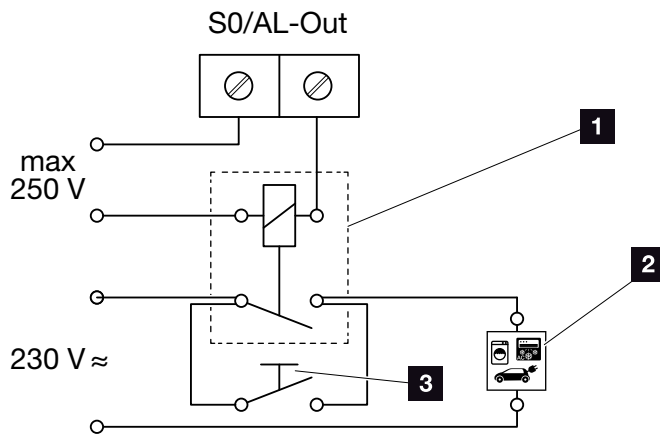

Fig. 61: Electrical connection for self-consumption
1. Properly connect the external load relay to the S0/AL-Out terminal  **Fig. 61**